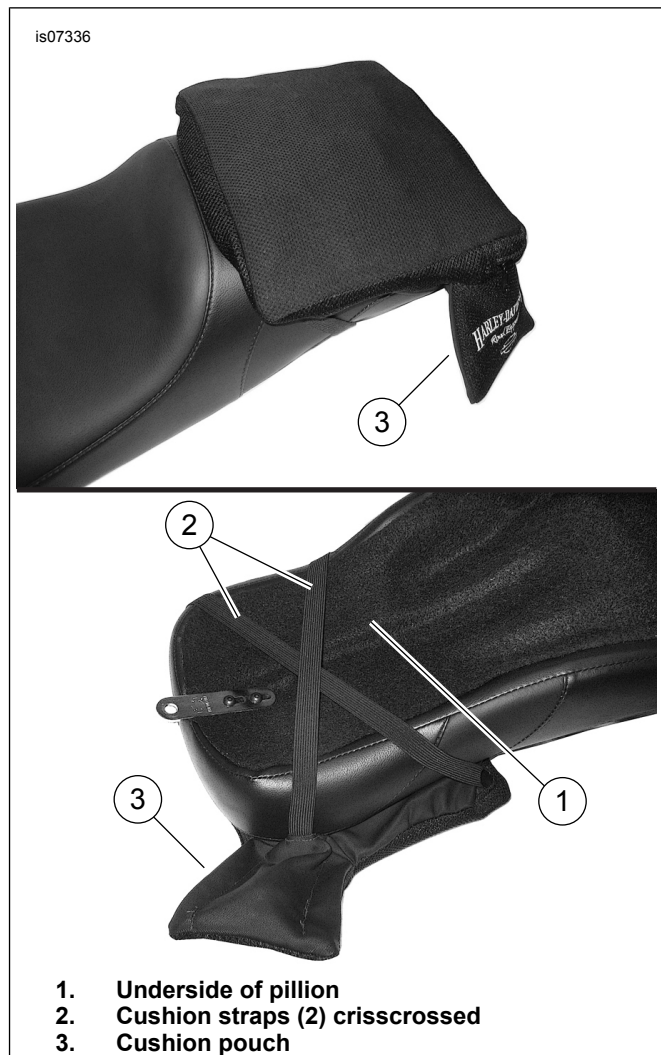
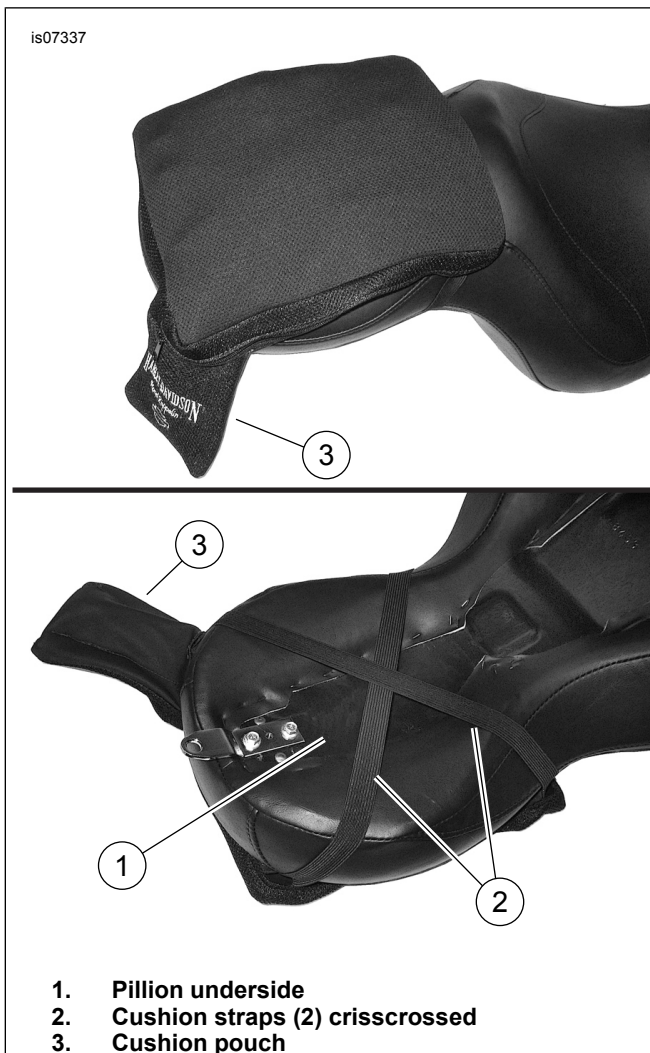

Figure 15. Pillion Cushion Installed Lengthwise on Passenger Pillion
Figure 16. Pillion Cushion Installed Crosswise on Passenger Pillion
- **When installing the passenger pillion cushion on a small passenger pillion**, the cushion can be aligned lengthwise for longer, narrow pillions, or cross-wise for shorter, wider pillions (see Figure 15 or Figure 16), to suit pillion shape and passenger comfort. In either case, the cushion straps (2) crisscross around and under the pillion area (1). Place the cushion pouch (3) to the **rear** of the pillion, on the left or right side.